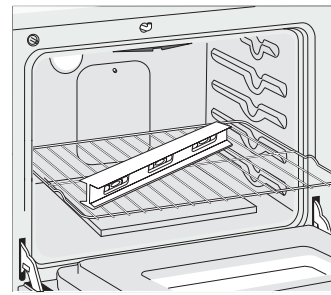

Figure 8
3. Check if the range is level by installing an oven rack in the center of the oven and placing a level on the rack (Figure 8).
2. Place a level on the rack (see Figure 8). Take 2 readings with the level placed diagonally in one direction and then the other. Level the range, if necessary, by adjusting the 4 leg levelers with a wrench (see Figure 23).